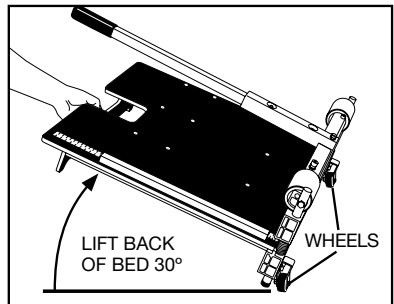

Figure 11
**WHEELS:** The cutter includes wheels for moving the cutter easily from a kneeling position (Figure 11). Simply lift the back of the bed off the floor to about a 30° angle, and the wheels will contact the floor for wheeling the cutter from place to place without having to get up and carry it by the carrying handle.